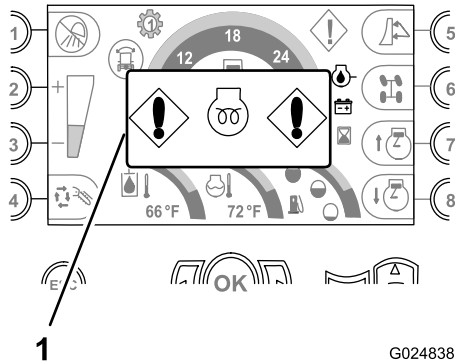

Figure 32
- **Wait-to-start-engine indicator**—This indicator displays when the key switch is in the On position and the intake air heater for the engine is energized (Figure 32).
Note: Wait until the indicator no longer appears before attempting to start the engine (Figure 32).